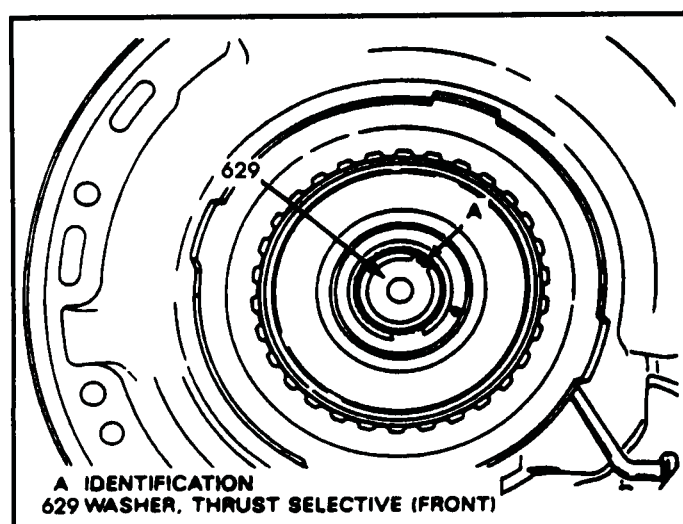

Figure 97
40. Ensure that selective thrust washer (629) is in place on the output shaft (See Figure 97).